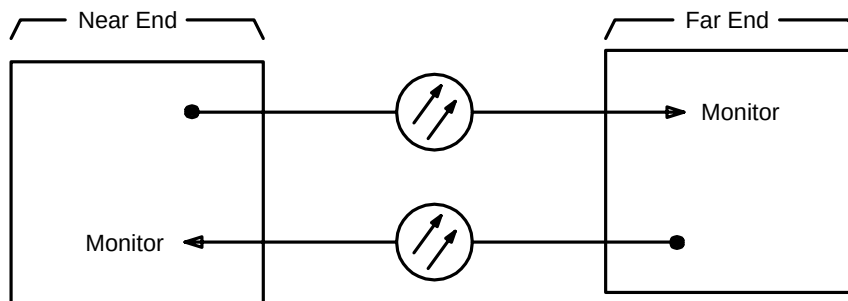

Figure 1. End-to-End Optical Line Test Monitoring
This test must be performed locally at each shelf location associated with the optical span(s) being tested. See Figure 1.
10. Trouble may be in optical fiber and/or connections. Trouble may also be in **OLIUs**. If the report indicated trouble when the report was obtained from the near end of the span, trouble may be in the receive direction (see Figure 1). If the report indicated trouble when the report was obtained from the far end of the span, trouble may be in the transmit direction. Check optical fiber and connections. Clean optical fiber connections [**DLP-527**]. If no trouble found in the optical fibers, replace **OLIU(s)** [**DLP-523**] associated with the address indicated in the report.